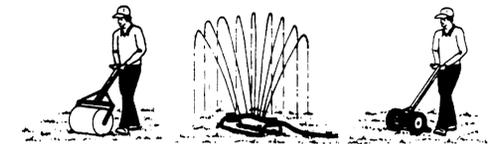

Figure 6.12a Proper installation of grass sod (modified from Va SWCC).
**Sod installation**—A step-by-step procedure for installing sod is illustrated in Figure 6.12a and described below.